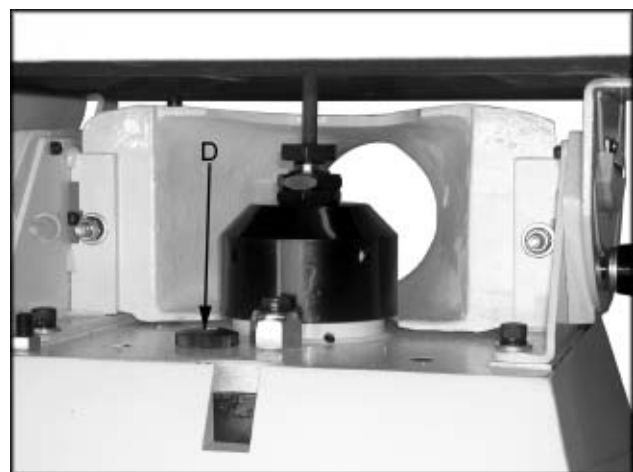

Fig. 9
2. Refill oil through the oil cap (D, Fig. 9). The oil capacity is two quarts.